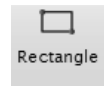

Figure 2-52 Final sketch for Tutorial 1
5. Press the ESC key to exit the tool. The final sketch for Tutorial 1 is shown in Figure 2-52.